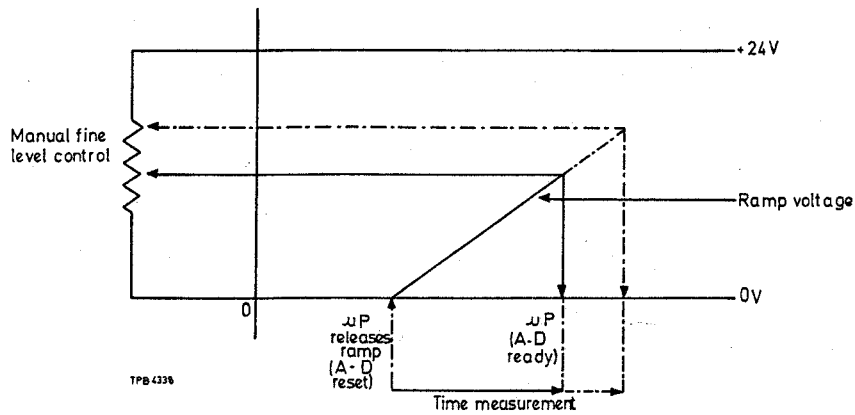

Fig. 13 Voltage/time converter (AL3/AS3)
77. If selection is made from the variable front panel manual control, the voltage from this is first compared with a voltage ramp initiated by the microprocessor in an A-D converter. When the ramp equals the value of the fine level control voltage a measure of the time taken by the ramp is noted and an appropriate digital output is made by the microprocessor, see Fig. 13.